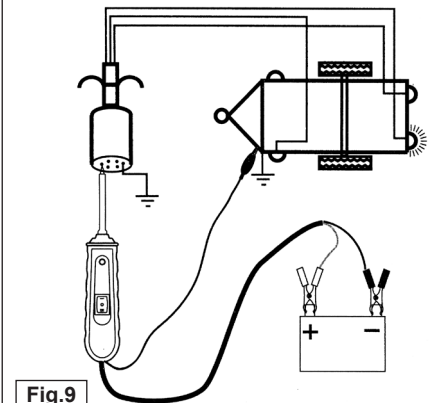

Fig.9
- 3.10.3 Probe the contacts of the towing electrical connector whilst rocking the power switch to the forward single bar position. This lets you check the function and orientation of the trailer lights. (See Fig.9).